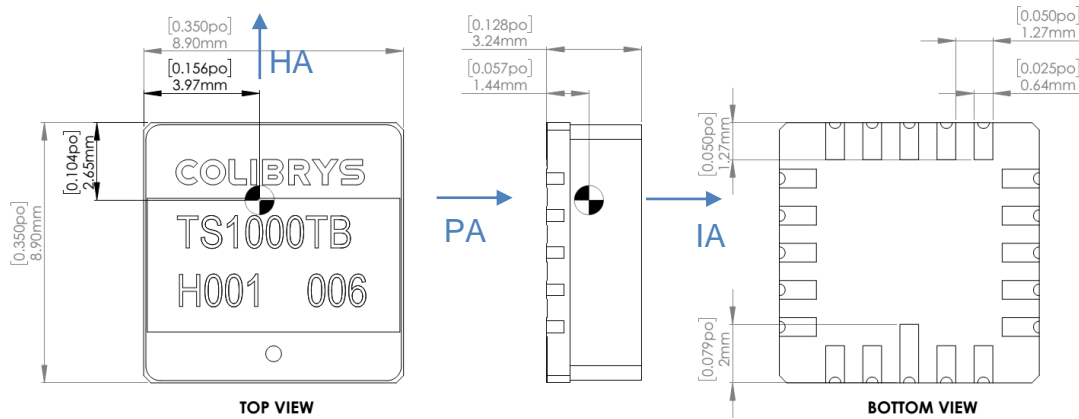

Figure 45: Package mechanical dimension. Units are mm [inch]
The outline of the LCC20 ceramic package and the Center of Gravity (CG) is illustrated in the Figure 45.